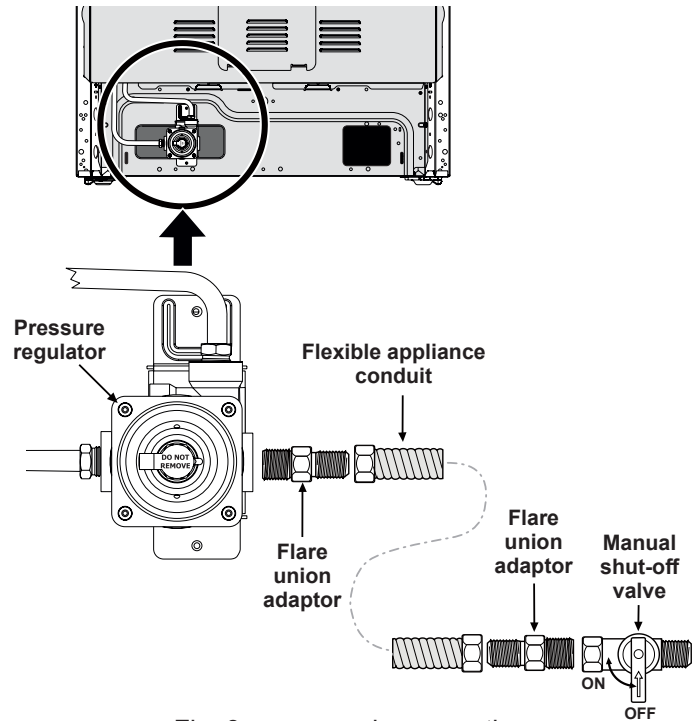

Fig. 8 - gas supply connections
- Install an external manual gas shut-off valve to gas supply line in an accessible location outside of range. Be sure you know where and how to shut off the gas supply to the range (See Fig. 8).
- Install 1/2" flare union adaptor to gas pressure regulator using no more than 15ft./lbs. of torque (Refer to Fig. 8).
- d. Install flare union adapter to external manual shut-off valve (See Fig. 8).
- e. Attach flexible appliance conduit to flare union adaptor on shut-off valve (See Fig. 8).